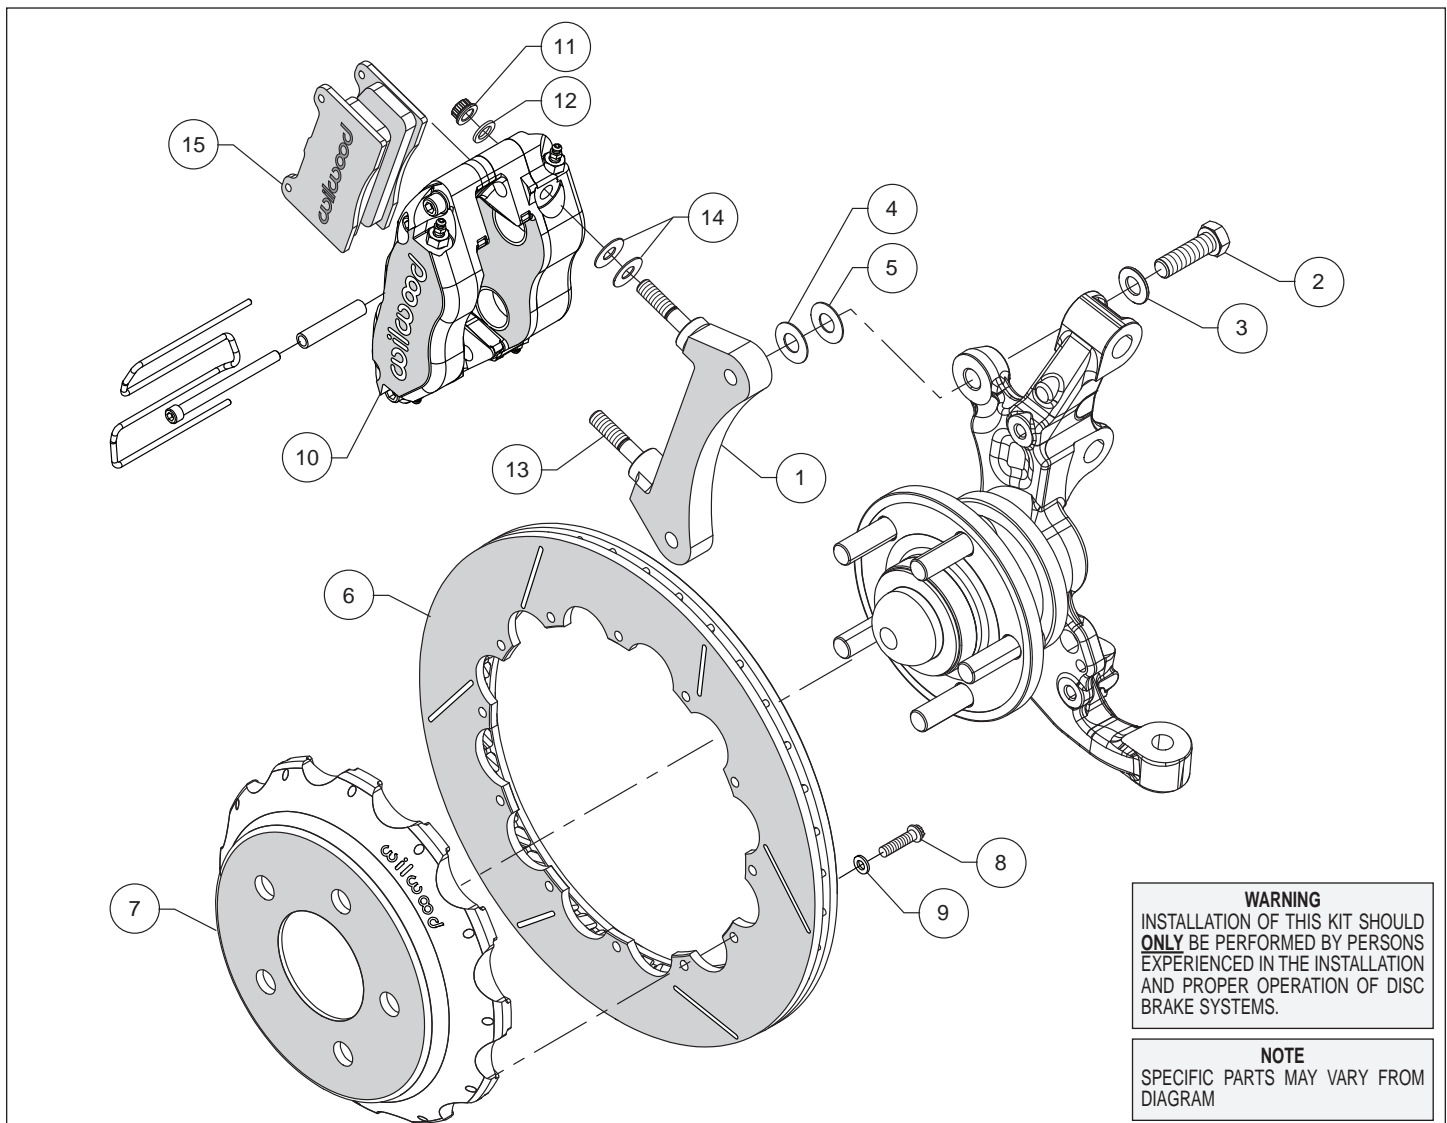
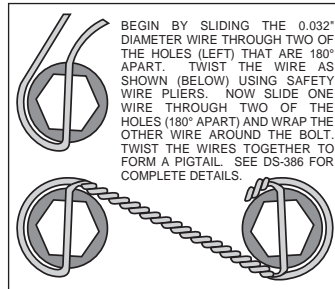

Figure 1. Typical Installation Configuration
Figure 3. Safety Wire Diagram
Assembly Instructions (numbers in parenthesis refer to the parts list and Figure 1 on the preceding pages):
- The caliper mount bracket (1) should initially be installed with clean, dry threads on the mounting bolts. Orient the bracket, as shown in Figure 1 and Photo 1, and install using bolts (2) and washers (3). Initially place one .033" thick shim (4) on each bolt between the bracket and upright, Figure 1. Temporarily tighten the mounting bolts. **NOTE: The bracket must fit squarely against the mount bosses on the upright.** Inspect for interference from casting irregularities, machining ridges, burrs, etc. Later, after the caliper alignment has been checked, the mount bolts will be secured using red *Loctite*® 271.
- Orient the rotor (6) and the hat (7) as shown in Figure 1 and Photo 2. Attach rotor to hat using bolts (8) and washers (9). Using an alternating sequence, apply red *Loctite*® 271 to the threads, and torque to 155 in-lbs. Safety wire the bolts using standard 0.032 inch diameter stainless steel safety wire as shown in Figure 3. Refer to Wilwood's data sheet DS-386 (available at www.wilwood.com/Pdf/DataSheets/ds386.pdf) for complete safety wire installation instructions.
- Lubricate the caliper mounting studs (13) with lightweight oil. Initially place two .035" thick shims (14) on each stud as shown in Figure 1 and Photo 4. Mount the caliper (10) onto the bracket (1) using lock nuts (11) and washers (12), Figure 1. Temporarily tighten the lock nuts and view the rotor through the top opening of the caliper. The rotor should be centered in the caliper, Photo 5. If not, adjust by adding or subtracting shims (4 and/or 5) between the bracket and the mounting bosses. Once the caliper alignment is correct, remove the bracket mounting bolts one at a time, apply red *Loctite*® 271 to the threads, and torque to 60 ft-lbs.
- Insert the brake pads (15) into the caliper with the friction material facing the rotor (6), as shown in Figure 1 and Photo 6. Check that the top of the brake pad is flush with the outside diameter of the rotor, Photo 7. If not, adjust by adding or subtracting shims (14) between the caliper and the bracket. After the caliper pad height is set, torque the caliper lock nuts (11) to 30 ft-lb. Secure the pads in place using the pad clip retainer as well as the center bridge pad retainer tube, bolt, and locknut, Photo 8. The locknut should be snug without play in the bolt or tube. Be cautious not to over tighten.